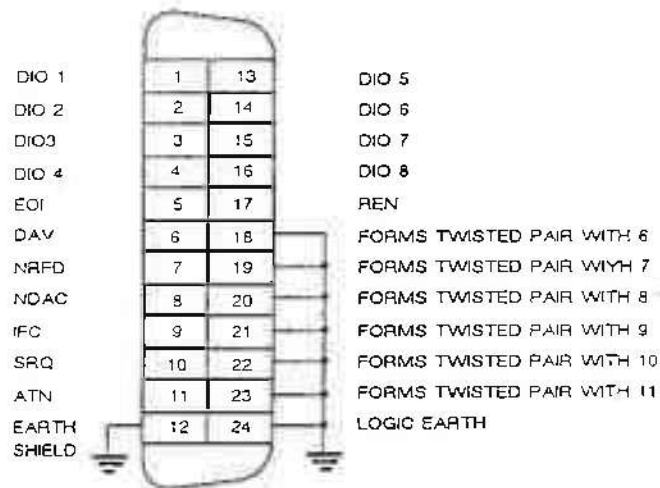

Fig.2 GPIB connector contact assignments
11. The contact assignments of the GPIB cable connector and the device connector are as shown in Fig. 2.